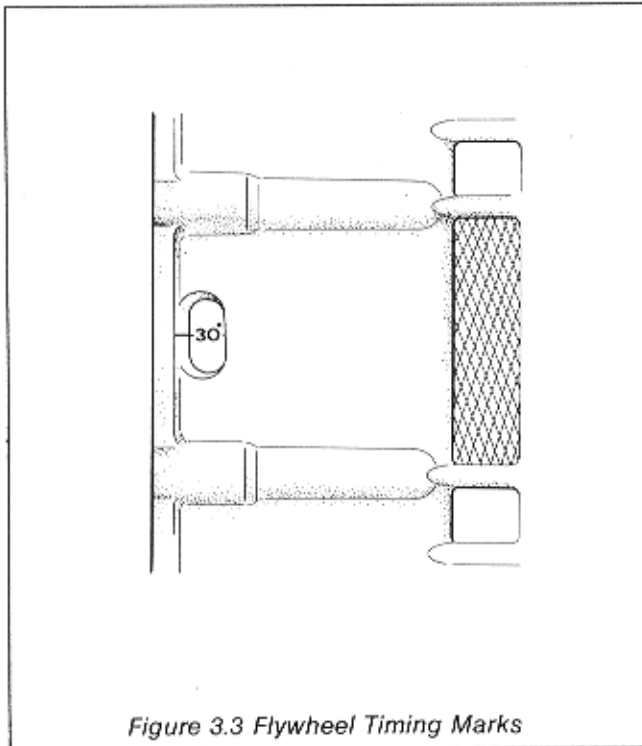

Figure 3.3 Flywheel Timing Marks
- (9) Turn the flywheel slowly by hand in the direction of rotation until the fuel flow from the spill pipe stops. This position is known as the spill point. To ensure that the position noted is correct it is advisable to repeat this operation a number of times.
- (10) Read off the angle through the timing hole in the bell housing (Figure 3.3). Check with the figures detailed in Table 3.4. If the angle is